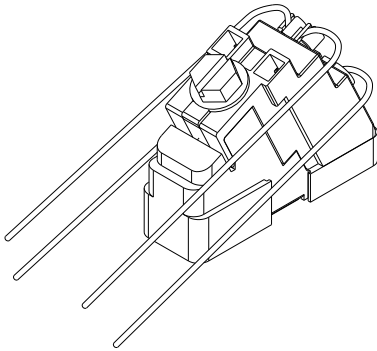

Figure 5
4. **Testing (see Fig 5)** - Feeder and subscriber wires must be segregated between the upper and lower ports to facilitate isolation testing.